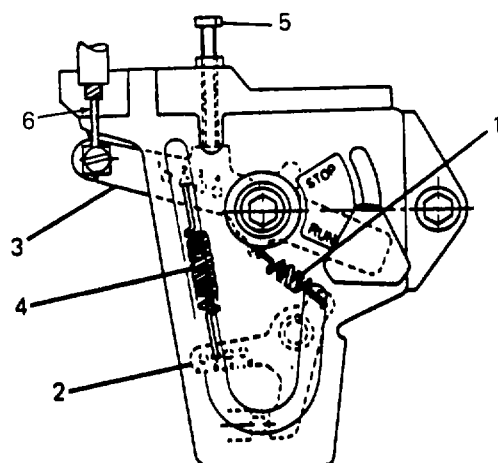

Figure 6-24. Speed Control Device Springs
- (1) Install regulator coil spring (8).
- (2) Mount regulator lever (3) to regulator bracket (7) using the retainer (9). Secure with self-locking nut (10).
- (3) Mount regulator bracket assembly (7) with mounting bolts (5 and 6).
- (4) Refer to Figure 6-24. Attach return spring (1) to the governor lever (2) and to regulator lever (3)
- (5) Attach regulator spring (4) to the second hole from the left on the governor lever (2) and connect spring to second hole from the left on regulator lever (3).
- (6) Attach throttle control inner wire (6) to regulator lever (3).
- (7) Lubricate all moving parts with lubricating oil.
- (8) Check engine RPM (3, 800 max unloaded, 3, 600 max loaded). Adjust bolt (5) until engine operates at proper RPM.